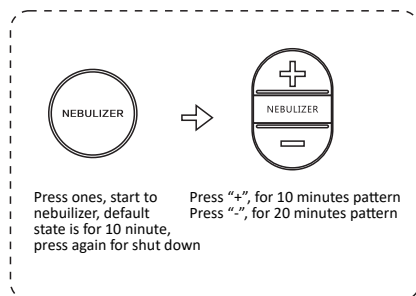

Figure 7.7.1
a) Press "atomization" key to start the higher grade; press atomizing volume regulation key "+". To adjust it to the lower grade, press atomizing volume regulation key "-". See fig. 7.7.1.